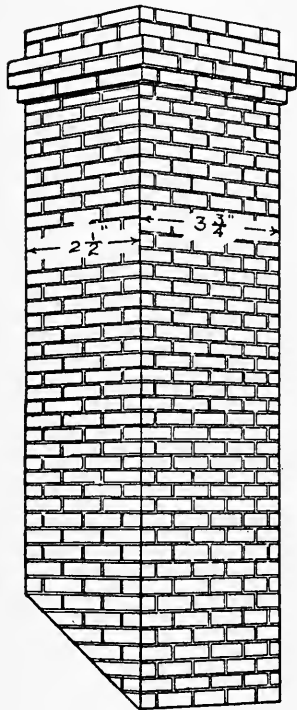

FIG. 103.
**The Chimney** is made the same as those for the other house, with the exception of the cap, which is built up of strips of cigar-boxes to represent corbelled brick (see Fig. 103). These strips should be three-sixteenths of an inch wide, and fastened in place by means of small brads.